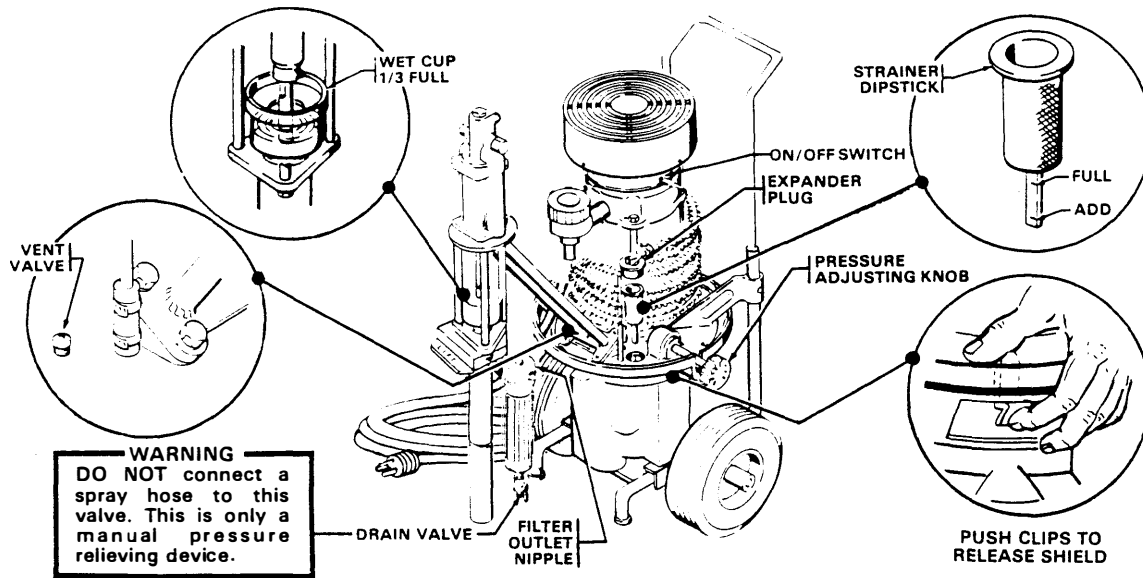

Fig 1
### 1. Check Hydraulic Fluid (Refer to Fig 1.)
### 2. Connect Hose and Gun (Refer to Fig 1.)
### 3. Fill Packing Nut/Wet-Cup (See Fig 1.)
- a. Be sure the ON/OFF switch is OFF. Refer to Fig 1. Then plug the cord into a grounded electrical outlet at least 20 ft (6 m) away from the spray area.
- d. Turn the pressure adjusting knob all the way counterclockwise to lower the pressure setting. Refer to Fig 1.